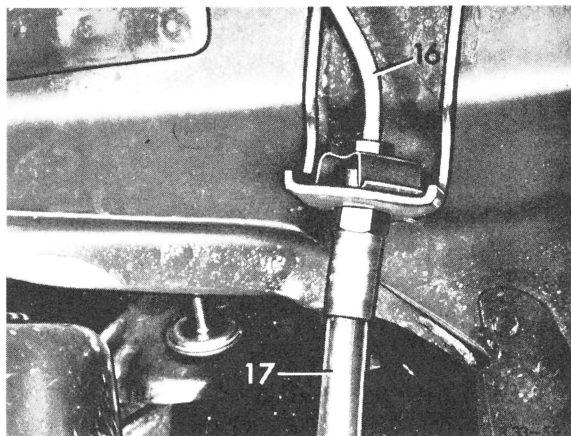

Fig. 5
- 2 Separate brake line and brake hose from each other (Fig. 5).
9 Install steering knuckle arm using new holder for brake hose ("Brakes, Steering" 46.1–095 or 46.2–095, Fig. 5).
10 Connect brake pipe and brake hose to each other (Fig. 5).